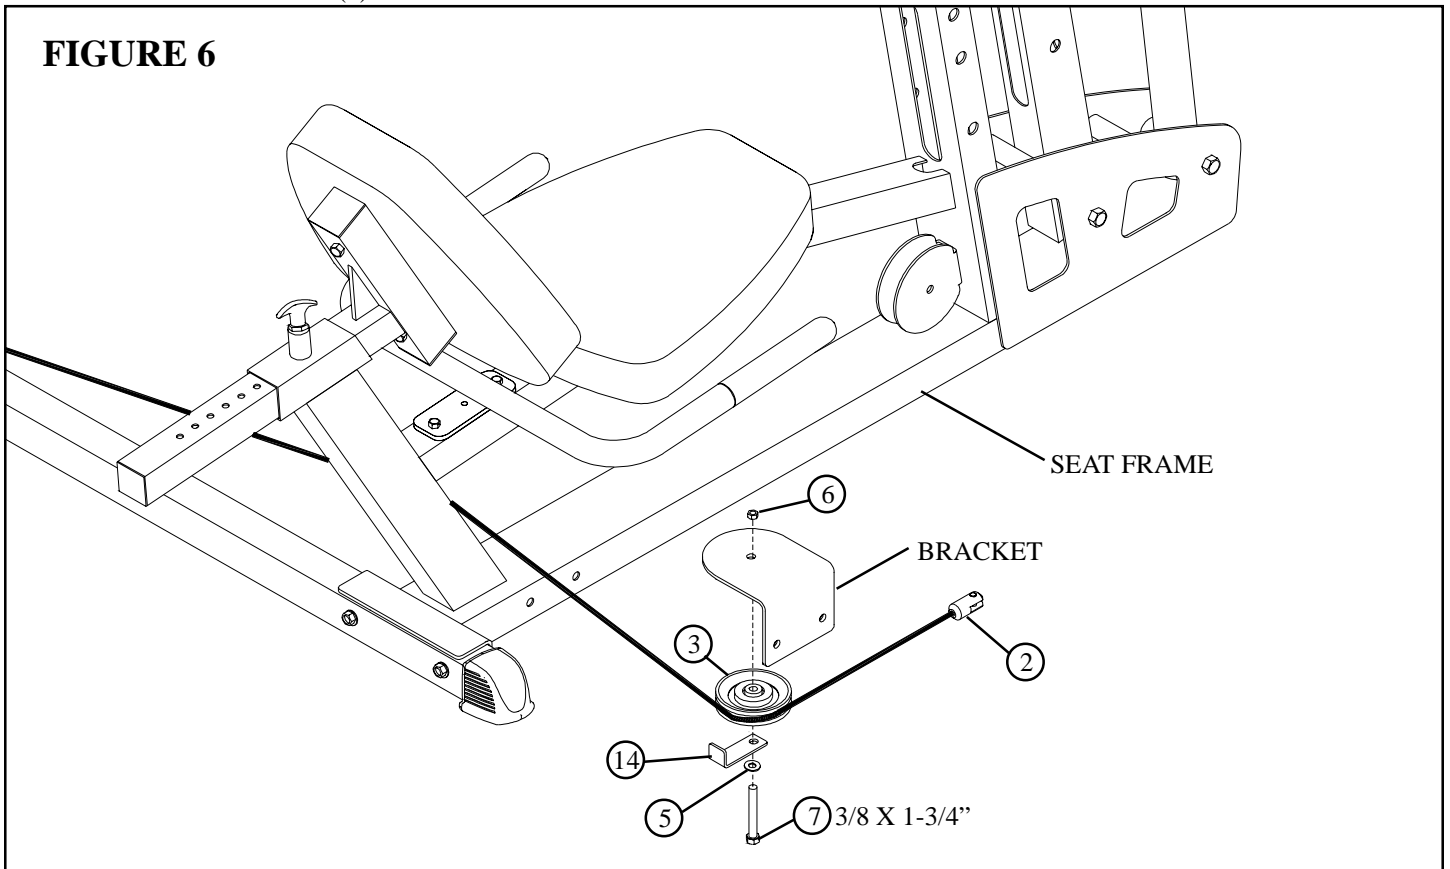

FIGURE 6
- Carefully route the LEG PRESS CABLE (2) around one 3-1/2" PULLEY (3) and **SECURELY** assemble the 3-1/2" PULLEY (3) to the BRACKET (from 100 LEG PRESS kit) using one 3/8 X 1-3/4" BOLT (7), one 3/8" WASHER (5), one CABLE CLIP (14) and one 3/8" LOCK NUT (6) as shown in FIGURE 6. Make sure the CABLE is in the grooves of all the pulleys.